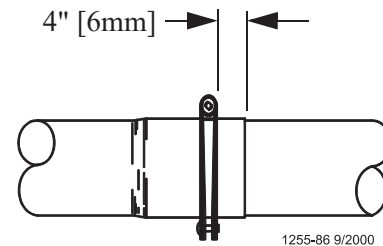

Figure 35. Clamp Installation
Figure 35 shows the proper clamp location on the tube joint. *Do not tighten the clamp at this time.*
- make sure the clamps are located, as shown in **Figure 35.**